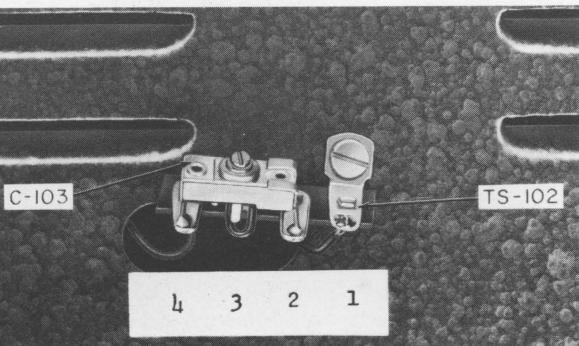

Figure 3: The four-lug terminal strip (TS-102) is mounted on the rear of the case.
(7) Remove the knock-out plate on the rear of the WO-33A case.
(8) Locate and mark a point on the rear of the case $2\frac{3}{8}$ " from the top, and $3\frac{1}{4}$ " from either side (center). At this point, drill a $5\frac{1}{32}$ " hole for inserting the TS-102 mounting screw.
(9) Mount the four-lug terminal strip (TS-102) on the rear of the case, as shown in Figure 3. Use the #6-32 screw, with the #6 lock-washer and #6 hex nut on the inside of the case.
(10) Replace the instrument in the case, passing the two wires connected to TS-101 through the knock-out hole.
(11) Cut the two wires so that they extend approximately 2 inches outside the case.
(12) Mount the 4- to 40- $\mu\mu$ F trimmer capacitor (C-103) on the terminal strip TS-102 between lugs #2 and #4, as shown in Figure 3. (The grounded lug is designated as lug #1.)
(13) Connect the grounded hookup wire